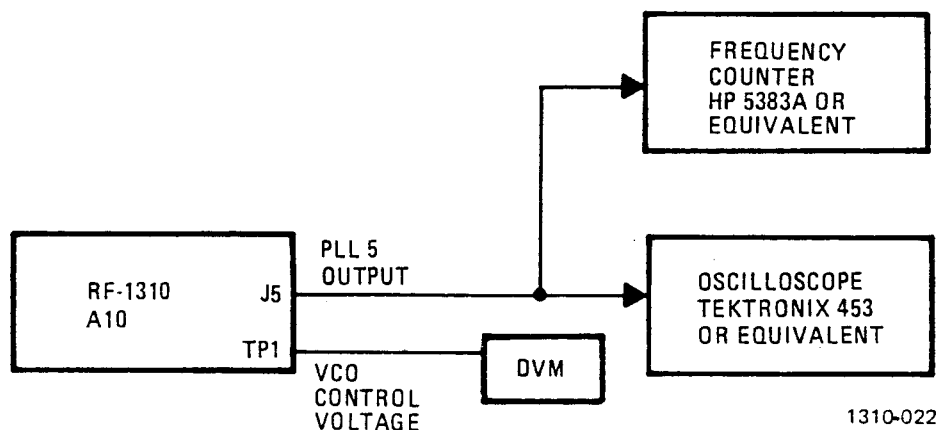

Figure 2. PLL 5 VCO Adjustment
- a. Connect equipment as shown in figure 2.